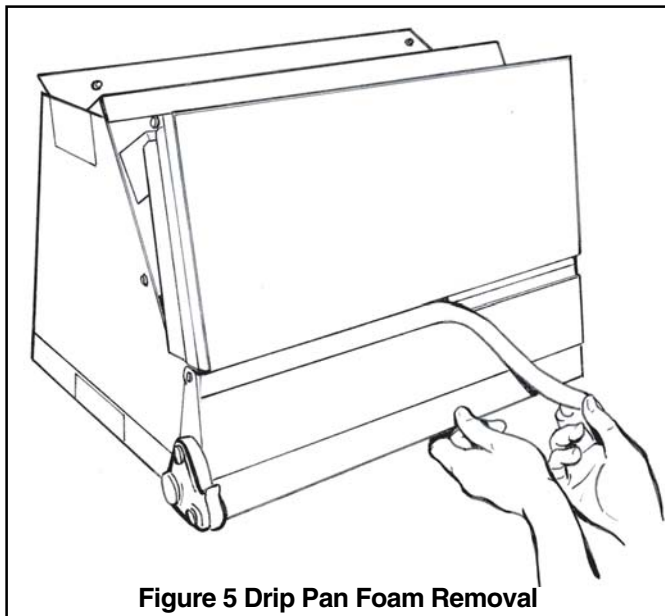

Figure 5 Drip Pan Foam Removal
- a. *For maximum efficiency*, the horizontal drip tray should be removed. See Figures 5, 6 and 7.
- a. **For maximum efficiency**, the horizontal drip tray should be removed. See Figures 5, 6 and 7. Tray removal requires that the coil be removed by sliding the coil out on the coil channel supports. For the TEE3F40-65 units, there is a coil support tab at the top of the coil connected to the case must be removed first. Remove 1 inch insulation strip covering the lip of the drip pan. The tray is detached by removing the two screws at the drain pan and the two screws holding the two brackets at the top of the coil. Remove drip tray by gently breaking the seal between the drip tray and drain pan.